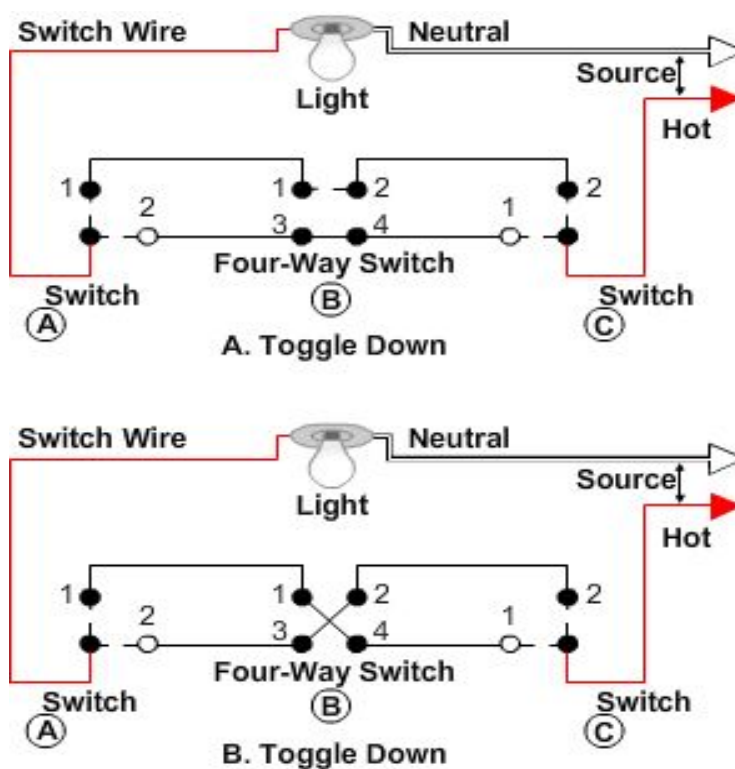

Figure 8-51 – Four-way switch circuit.
One or more four-way switches may be used with two three-way switches to provide control of a lamp from three or more different points. A four-way switch is an extension of a three-way circuit by the addition of a four-way switch in series with the two traveler wires. *Figure 8-51*, view A, shows how a four-way switch is used in combination with
Suppose, now, that you want to turn the light off at the four-way switch (B). By putting the toggle in the OFF (down) position, you change the switch blades from Points 1 to 2 and 3 to 4 to Points 1 to 4 and 2 to 3. (See *Figure 8-51*, view B.) If you now retrace the circuit from Switch B to Switch A, you will find that it goes from Point 4 to Point 1 on Switch B and through the traveler to Switch A to Point 1 where the blade being in the open position breaks the circuit.